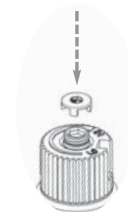

Fig.6
- 21) Re-assemble the black protection cap (Fig. 6).